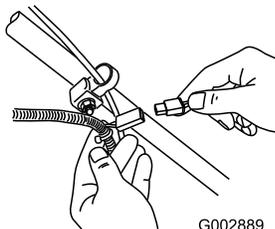

Figure 30
1. Connect the charger to the mower wire harness located below the ignition key (Figure 30).